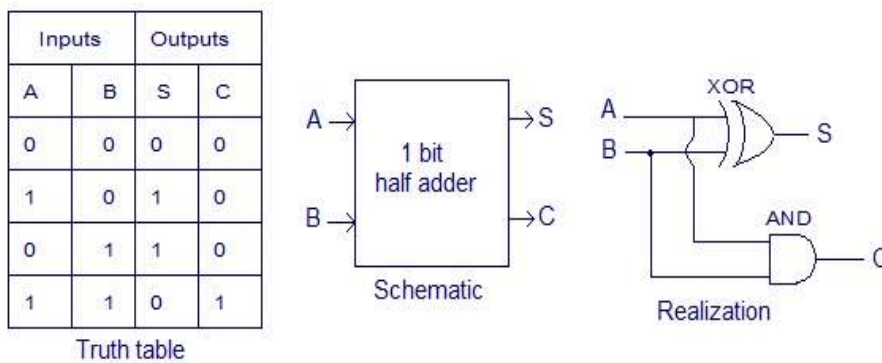

Fig1: Half adder with truth table
The half adder is a combinational circuit which add two inputs: A and B, and generates a carry (C) and a sum (S). The half adder circuit truth table and circuit diagram is shown in figure 1.